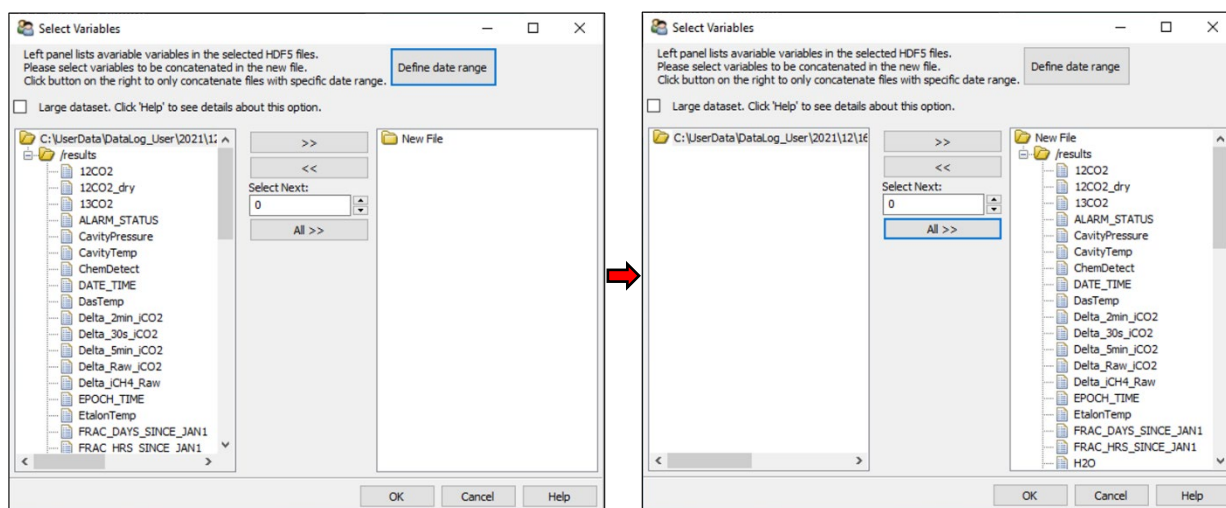

Figure 86: Selecting Variables for Concatenation
- From **File** menu select **Concatenate H5 Files (C)** to combine the H5 files into a time series. Take care to select exactly the same folder in the file viewer window.
- In the Select Variables window, click **All** to move over all variables for concatenation. If concatenating very long records, the user can instead select only a few variables by clicking the variable name on the left dialogue, and clicking the double arrow button. Confirm by clicking **OK**. (Figure 86).